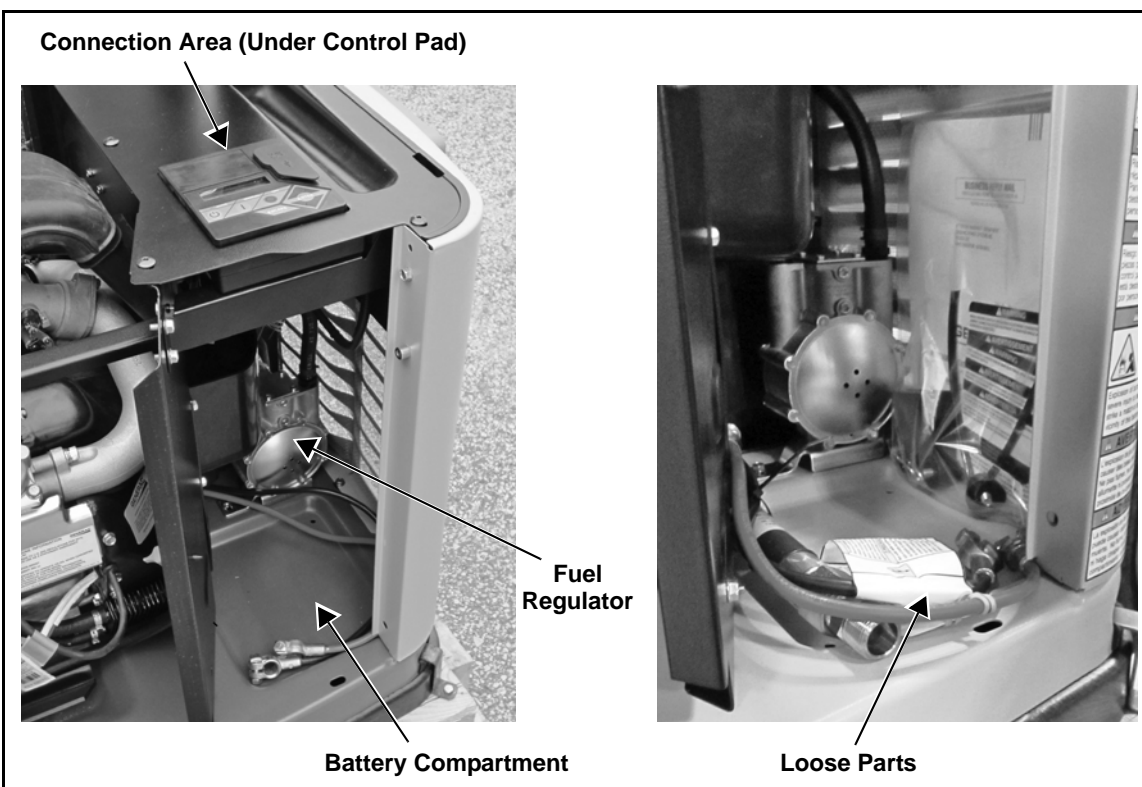

Figure 2-4. Customer Connection Area/Loose Parts Location
9. Figure 2-4 illustrates the following: